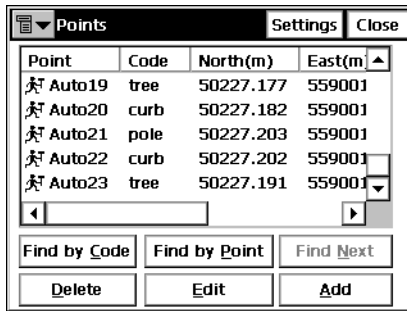

Figure 4-1. Points
Select **Edit ▶ Points**, the *Points* screen displays (Figure 4-1).
- To delete a point, select it in the list and tap the **Delete** button (Figure 4-1 on page 4-1).